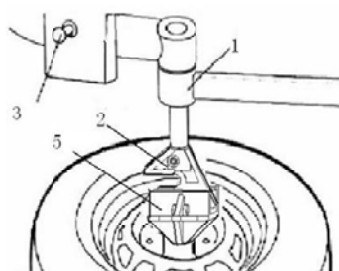

Fig 13
- 5) Turn the rotating arm 1 to its working position. Fix the tire with the tire pressing head (upper) 2 and tire pressing head (bottom) 5 preparing for central positioning; (Fig 13)